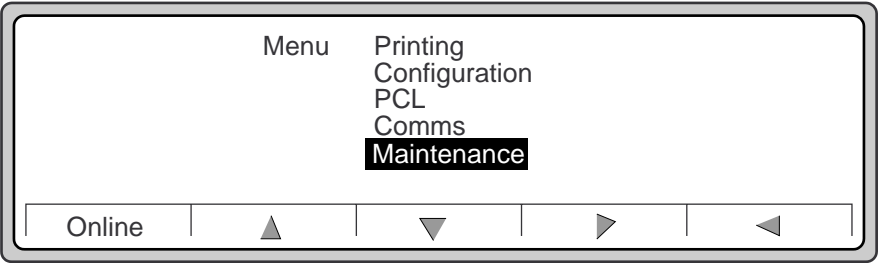

Figure 2-102 Menu
- 2. Use the **down arrow** to scroll down and highlight **Maintenance**, as shown in Figure 2-102, and press the **right arrow**.